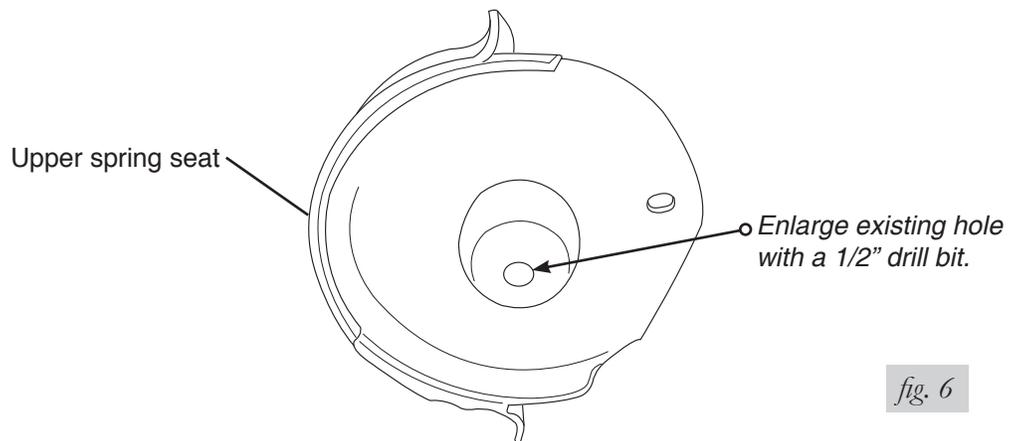

fig. 6
- It will also be necessary to enlarge the upper spring seat hole. Drill the existing hole out with a 1/2" drill bit (fig. 6).